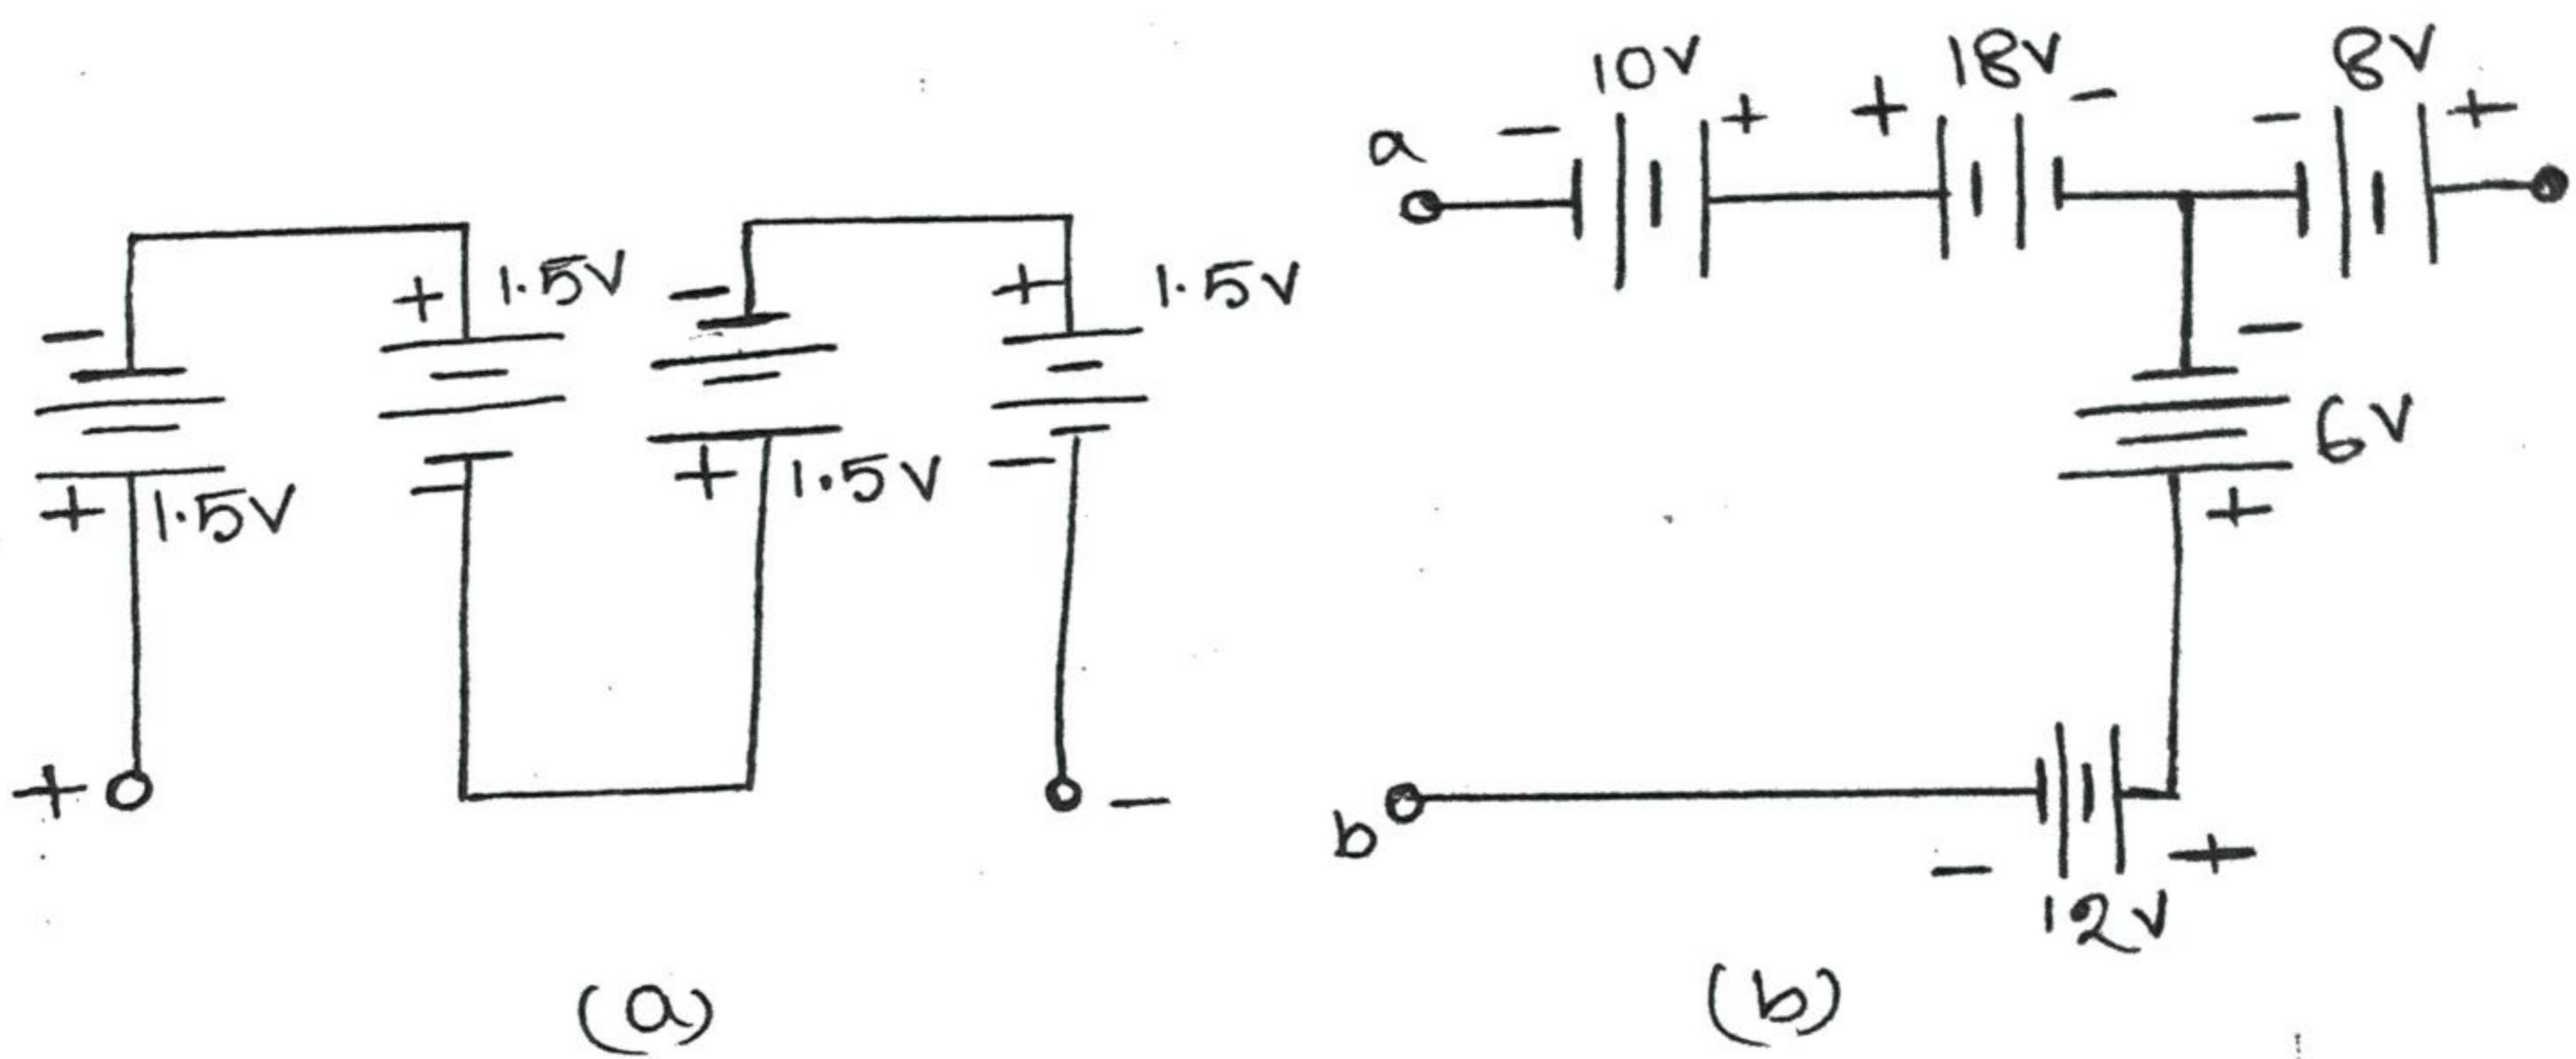

Figure: 1
- c) Combine the series voltage sources in Fig.1 (a) and (b) into single voltage source. 4